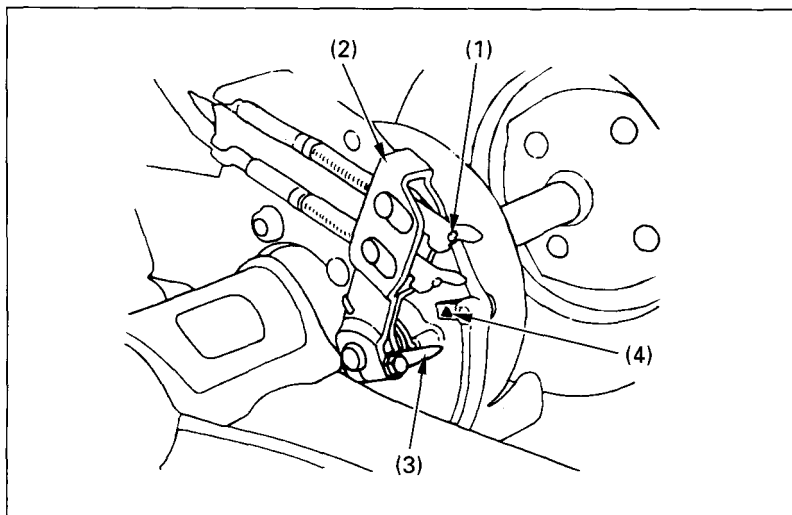

Fig. 4-30 (1) Brake lever adjusting nut (2) Brake arm (3) Arrow (4) Reference mark
When the brake is applied, an arrow (3) attached to the brake arm (2) moves toward a reference mark (4) on the brake panel (see Fig. 4-30).